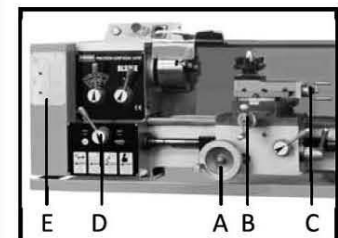

Fig. 12
Handwheel of Apron travel(A), cross travel(B) and top slide(C) can be operated for longitudinal or cross feeding (Fig. 12)
1. Set the selector knob (D. Fig. 12) to select the feed direction and the feed speed
2. Use the table (E. Fig. 12) on the lathe for selecting the feed speed or the thread. Adjust the change gear if the required feed or thread cannot be obtained with the installed gear set